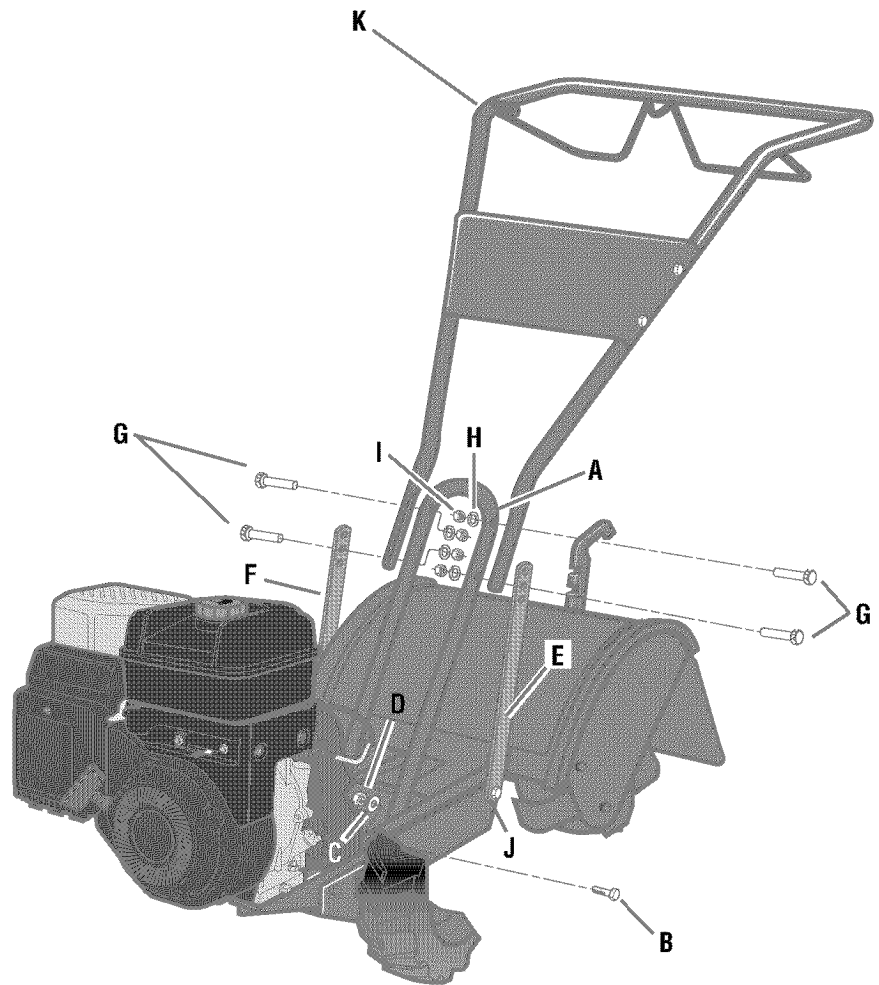

Fig. 2-2: Attach handlebar.
| 1 | Handlebar Support (see A, Fig. 2-2, page 7) |
| 1 | Handlebar Assembly (see K, Fig. 2-2) |
1. Attach the two legs of the handlebar support (A, Fig. 2-2) loosely to the inner sides of the tiller frame using two 3/8"-16 x 3/4" hex hd. screws (B), two 3/8" flat washers (C) and 3/8"-16 hex locknuts (D).
2. Using using two 5/16"-18 x 1-1/2" hex hd. screws (G), 5/16" split lockwashers (H) and 5/16"-18 hex nuts (I), loosely attach the the handlebar support (A) using the upper holes.
3. There are three height adjustment holes in the two handlebar support brackets. E & F, Fig. 2-2). Use a setting that will position the handlebars at approximately waist level when the tines are 3"-4" into the soil. Loosely attach the handlebar support brackets **to the outside of the handlebar assembly (K)** using two 5/16"-18 x 1-1/2" screws (G), 5/16" split lockwashers (H) and 5/16"-18 hex nuts (I).